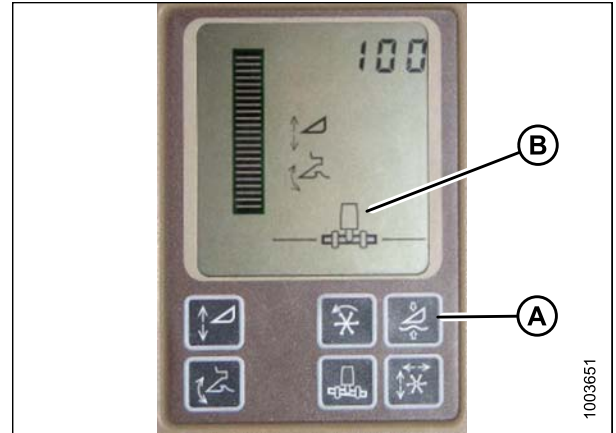

Figure 4.54: John Deere Combine Display
Do **NOT** use active header float function (A) in combination with MacDon auto header height control (AHHC)—the two systems will counteract one another. The header symbol (B) on display should **NOT** have a wavy line under it and should appear exactly as shown on Active Header Control Display in Figure 4.54, page 119.